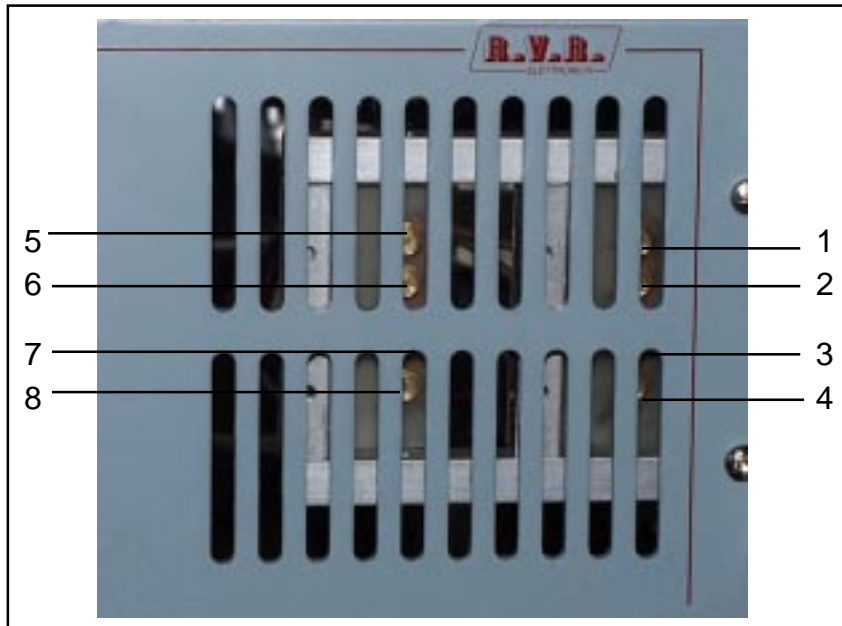

Figure 5
- It is not necessary to remove the cover of the coupler: the trimmer can be directly operated from the front panel through the holes intended for the ventilation air flow (figure 5)